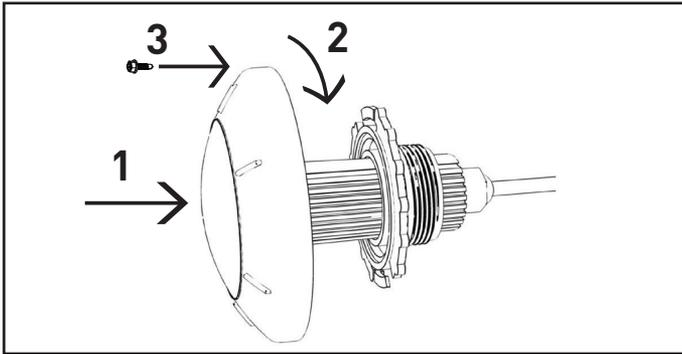

Figure 3. Attach the assembled light and cable to the docking ring
3. Cut the cord at the junction box, leaving at least six (6) inches of cord to make connections.
4. Strip six (6) inches of the outer cord jacket to expose the two insulated wires being careful not to damage any remaining insulation.
5. The light mounts to the docking ring by turning it clockwise onto the docking ring and securing it with the provided screw. See Figure 3.